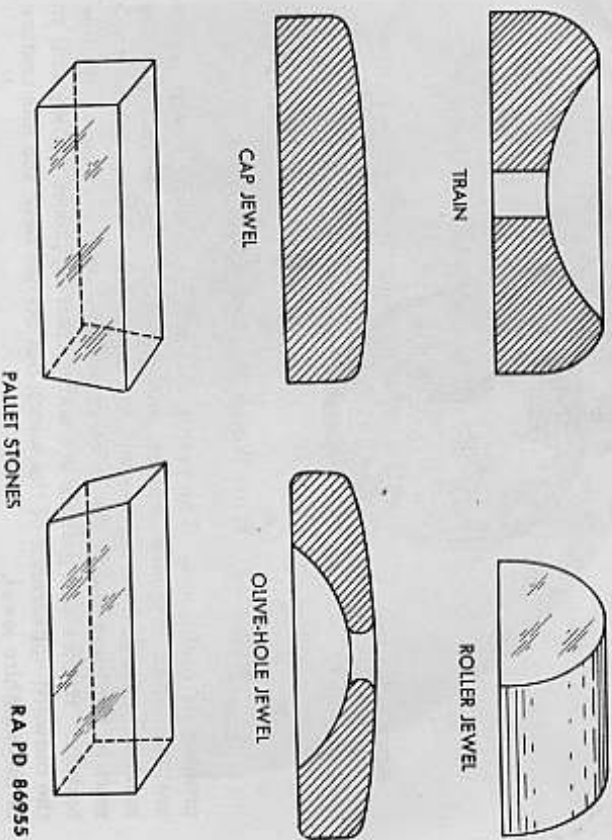

Figure 13 — Jewels
h. **Types of Jewels (fig. 13).** Watch jewels are of four distinct types, each type having a particular function.